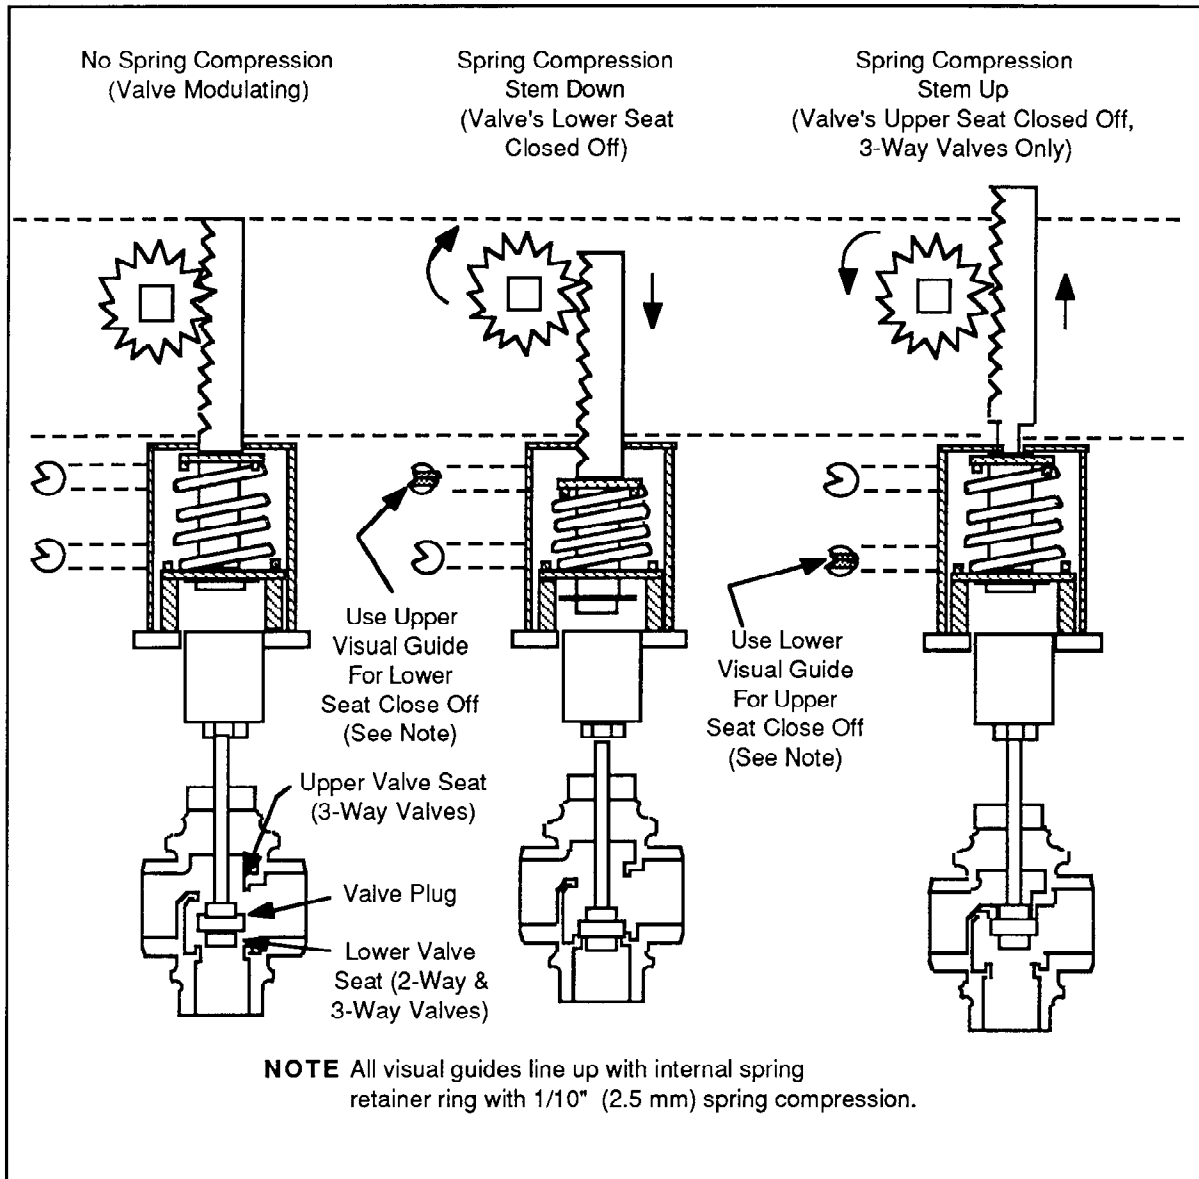

Figure 9. Operation of the Y20EBD Valve Linkage
5. Pull rack attached to valve stem all the way up. Then slowly push rack down with square end of drive gear lined up with motor shaft. Press gear on to shaft.(see Figure 9)